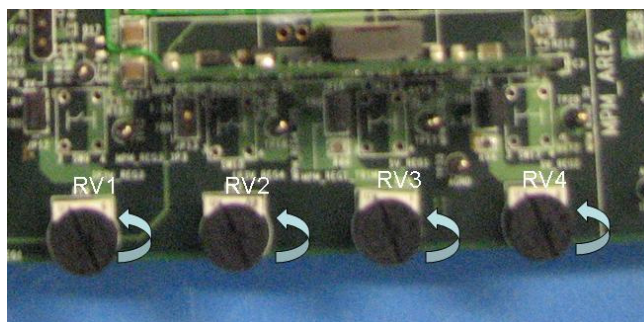

Figure C-29 · Turn POTs RV1 – RV4 Counter-Clockwise
21. Turn POTs labeled RV1, RV2, RV3, and RV4 counter-clockwise all the way to the left, as shown in Figure C-29.